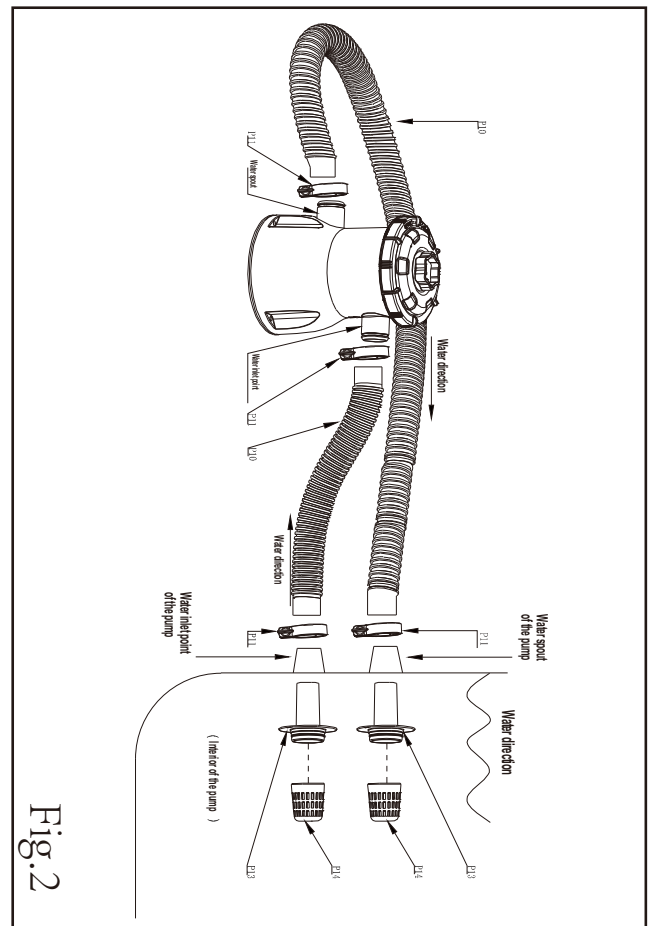

Fig.2
6. Connect the flexible pipes as shown in Fig 2. Insert the flexible pipes into the lateral openings of the pool and secure the pipes with the provided clamps.
7. Connect the accessories (P13) to the accessories (P14) pursuant to Fig. 2.